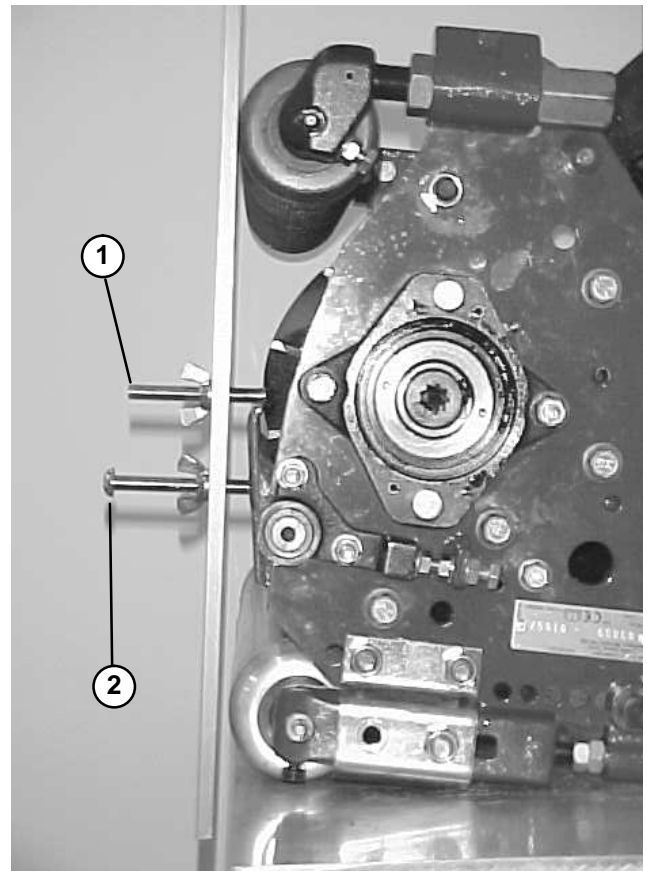

Figure 16
4. With the cutting unit rotated vertical, place gauge bar across front and rear rollers. The first screw head should fit snugly over edge of bedknife and the end of second screw should contact bottom of bedknife (Fig. 16). If there is a gap between the front roller and the gauge bar, lower the front roller until it contacts the gauge bar. Verify front roller (attitude) at each end of the bedknife.